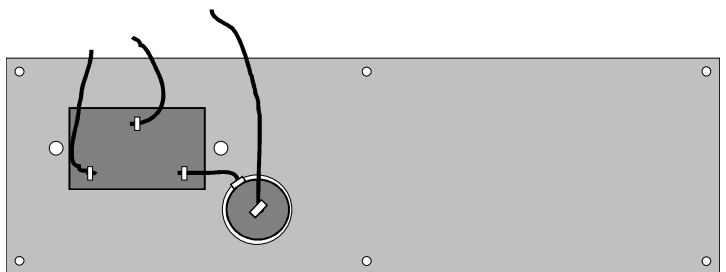

Figure 11
10) Mount the fuse holder and IEC connector to the small rear panel using the supplied hardware as shown in figure 11.
Cut a piece of black hookup wire approximately 8 inches in length and solder one end to the other outer terminal of the IEC connector as depicted in figure 11.